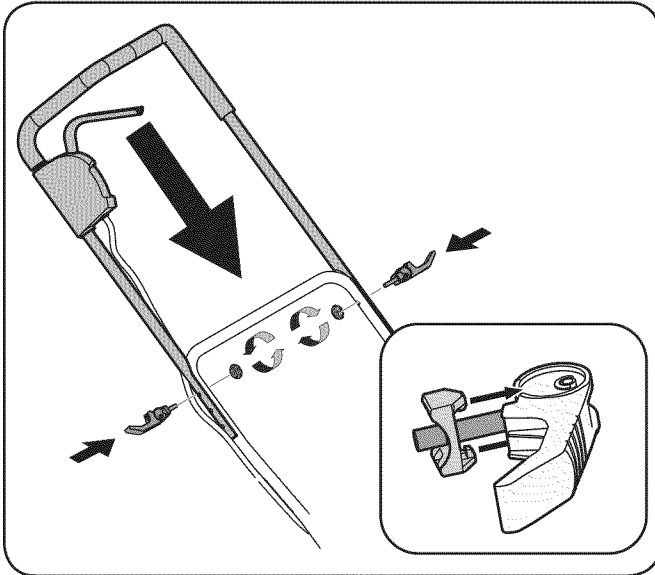

Figure 3-3
5. Place the upper handle onto the lower handle, keeping the motor cord over the handles. See Fig. 3-3.
NOTE: Make certain the clips on the clamp retainers are inside the grooves of the clamp seats. See Fig. 3-3 inset.
4. Insert toggle clamps packed separately with the mower into the holes for the selected height. See Fig. 3-3.